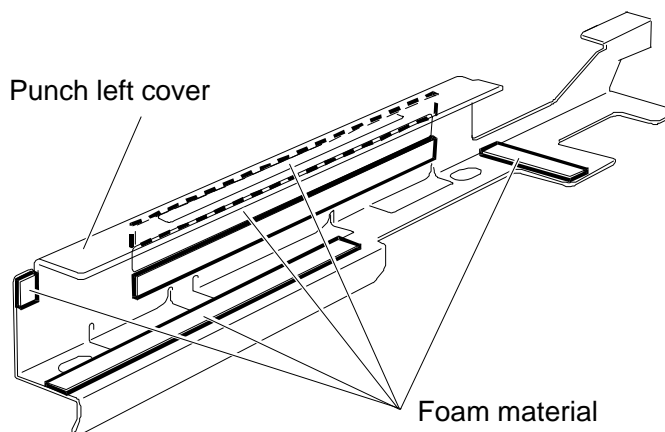

Fig. 2
2. As the procedure to handle cause 3, foam material will be added to 5 locations on the punch slide unit punch left cover (Fig 2). This change will reduce the slight noise in the punch slide unit.